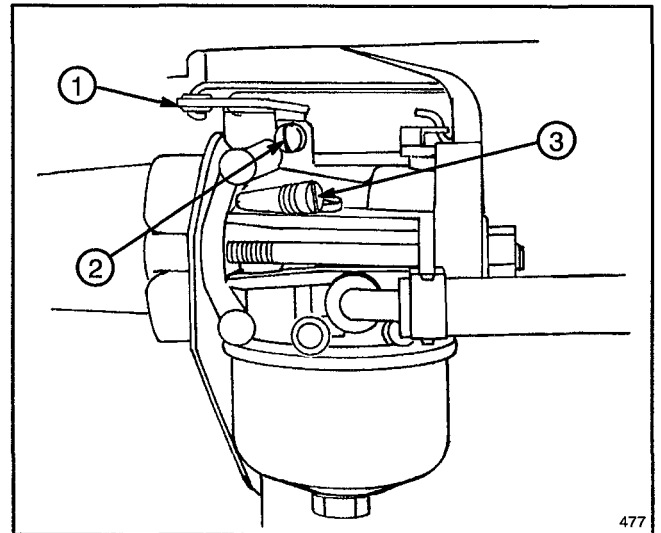

Figure 20
1. Gently turn idle mixture valve clockwise until it **just** closes (Fig. 20). Turning valve in too far may cause damage.
4. Rotate throttle (Fig. 20) counterclockwise and hold against idle speed adjusting screw (Fig. 20) while turning idle speed adjusting screw to obtain 1750 RPM.